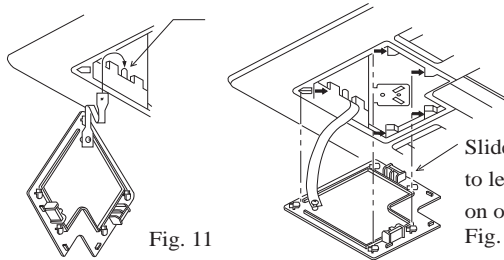

Fig. 11
- ① As shown in Fig. 11 tie the cover plate onto the bolt on ornament plate.
- ② Install cover plate onto ornament plate.